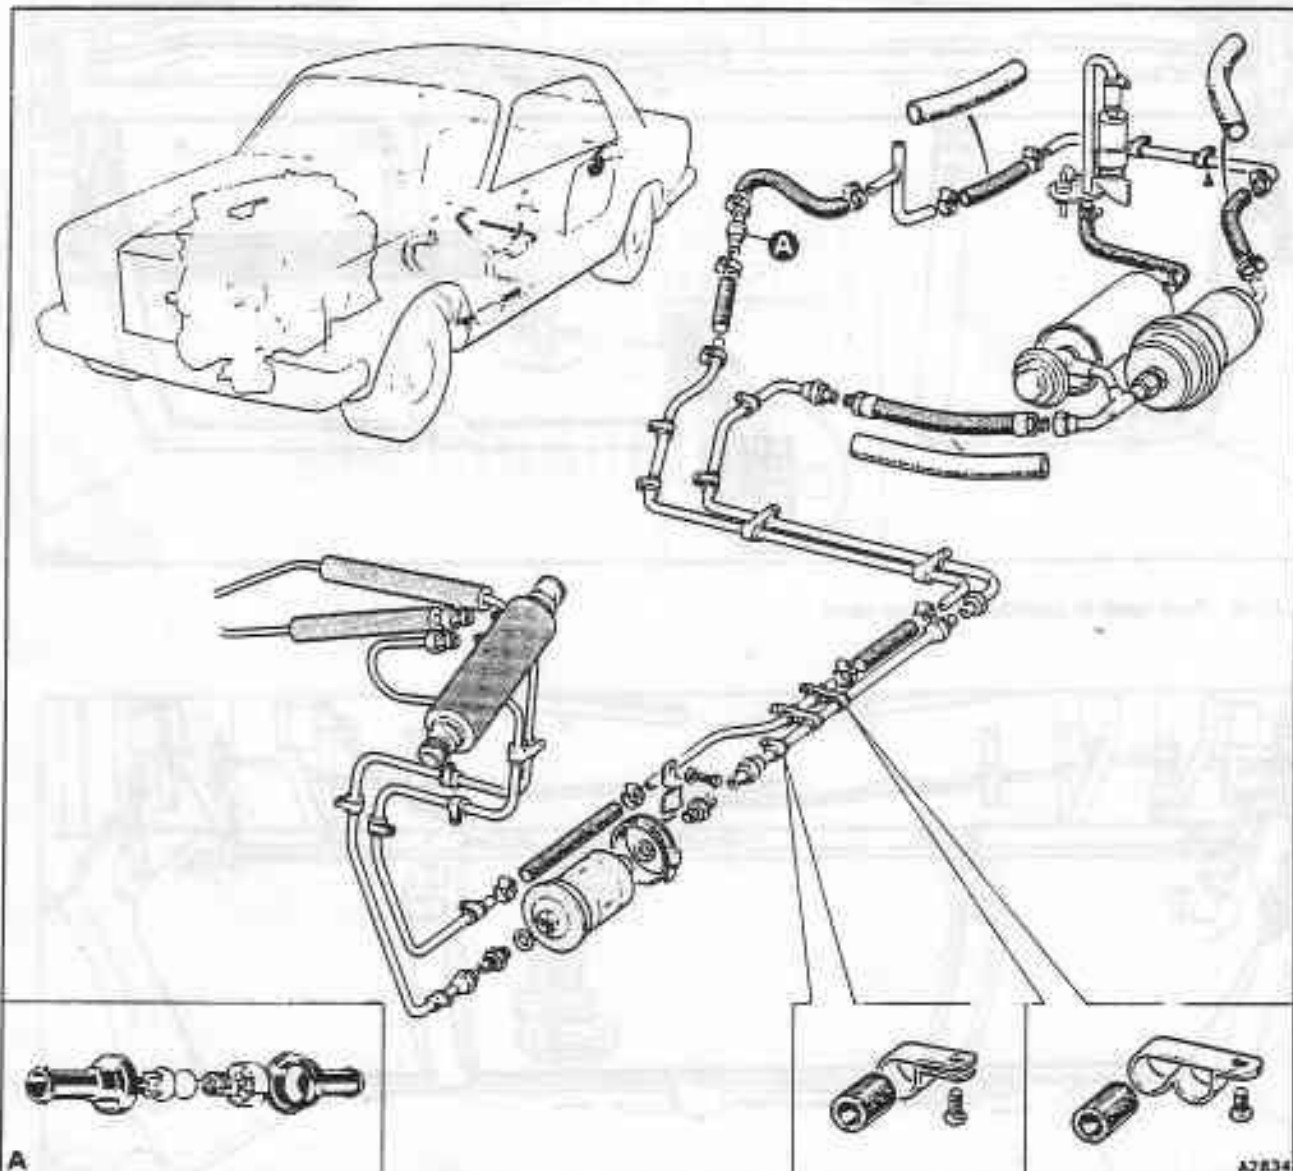

Fig. C2-6 Fuel pipes and fittings
**Fuel pump/fuel accumulator assembly – To remove and fit (see figs. C2-6 and C2-7)**
**Fuel filter – To remove and fit (see fig. C2-6)**
**Fuel lines (see fig. C2-6)**